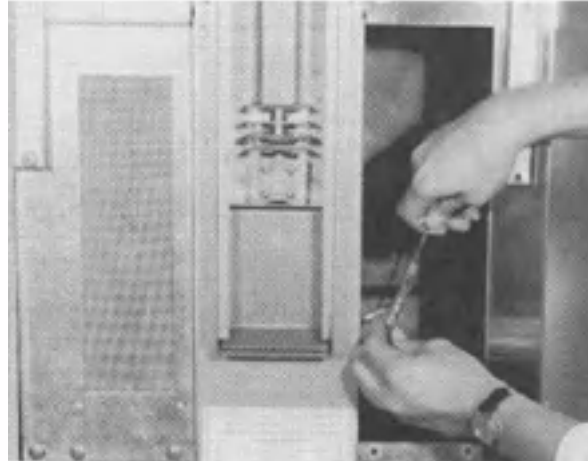

FIG. 17
4. Remove the seven (7) screws securing Danger Label panel and either left or right back panel (Servicer preference) to rear of fryer.
6. Disconnect the two (2) vent solenoid wires from harness wires at insulated terminals (See Figure 17).
7. Remove the four (4) screws securing vent block to vent assembly. Save screws, block and ball (if applicable) for reuse.